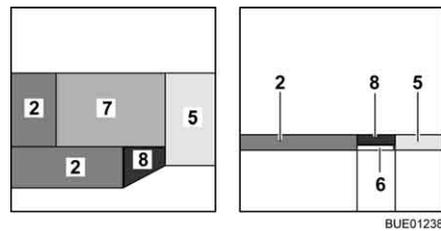

Fig. 96 After conversion
- Place the additional cushion (Fig. 96,7) on the table.
- Place the additional cushion (Fig. 96,8) on the bed widening.